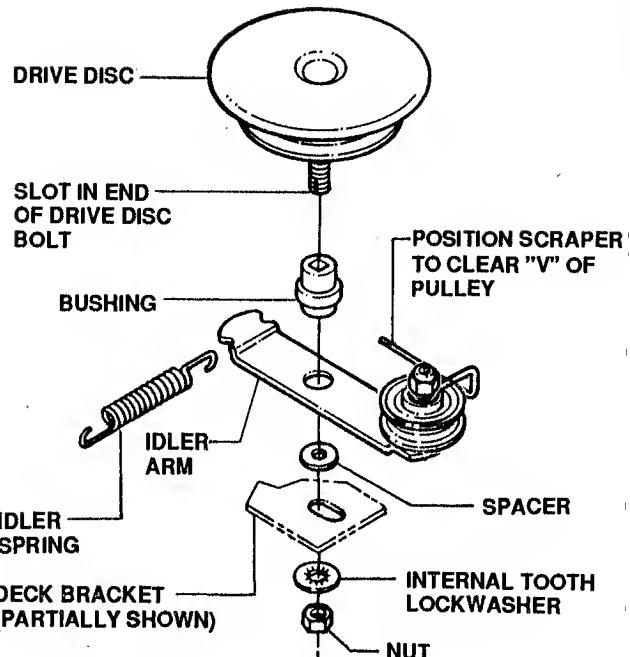

FIGURE 3.20
- Unhook the idler spring from the right rear wheel bracket. See Figures 3.20, 3.21 & 3.22.
- Hold the slotted end of the drive disc bolt with a screwdriver and remove the nut and internal tooth lockwasher. Refer to Figure 3.20.
9. Reinstall drive disc and other components as shown in Figure 3.20.